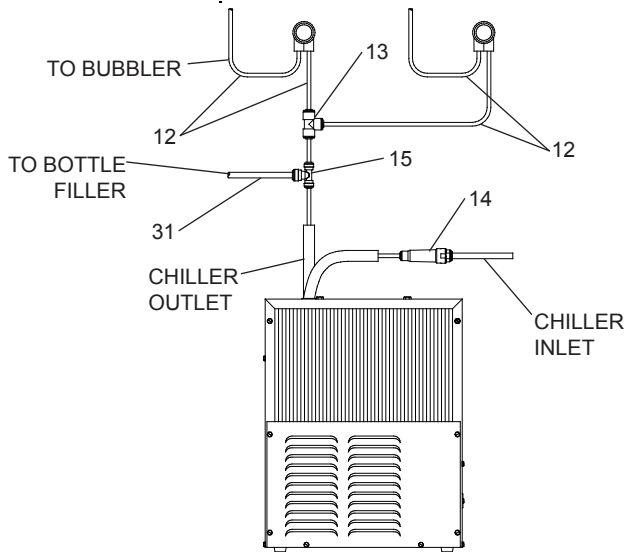

Figure 2 - EZWS-ERP Tube Routing
- 3a. (For EZWS-ERPBM28K)** Install strainer on the input tube to the chiller (Fig. 2).